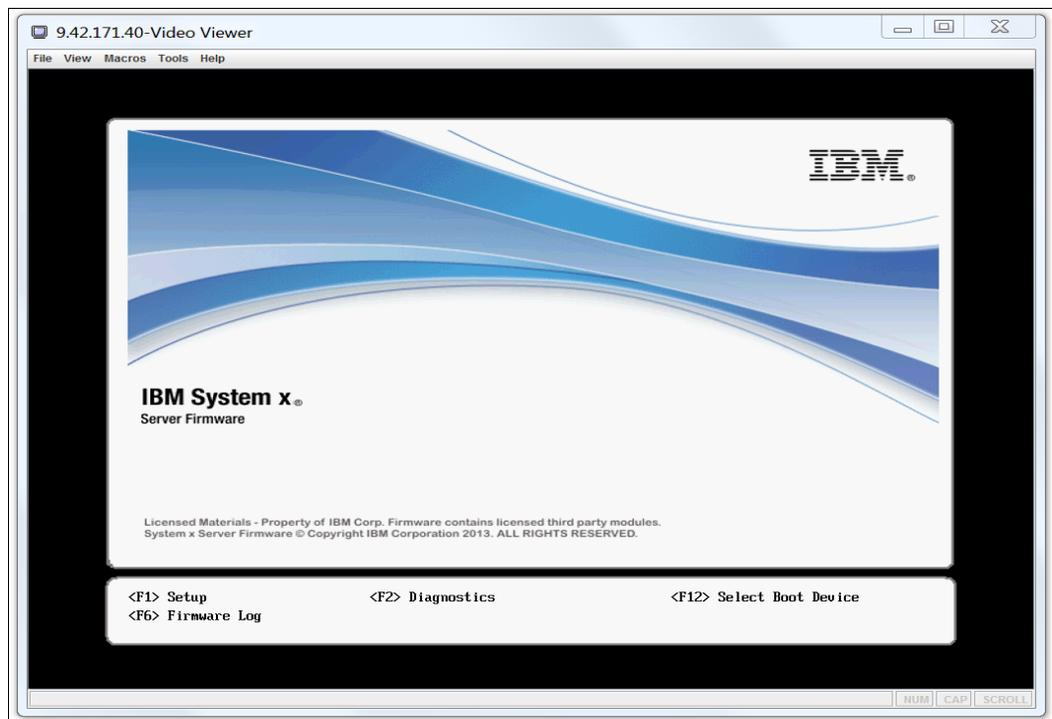

Figure 5-5 Video Viewer window
4. A Java application window should open, as shown in Figure 5-5: